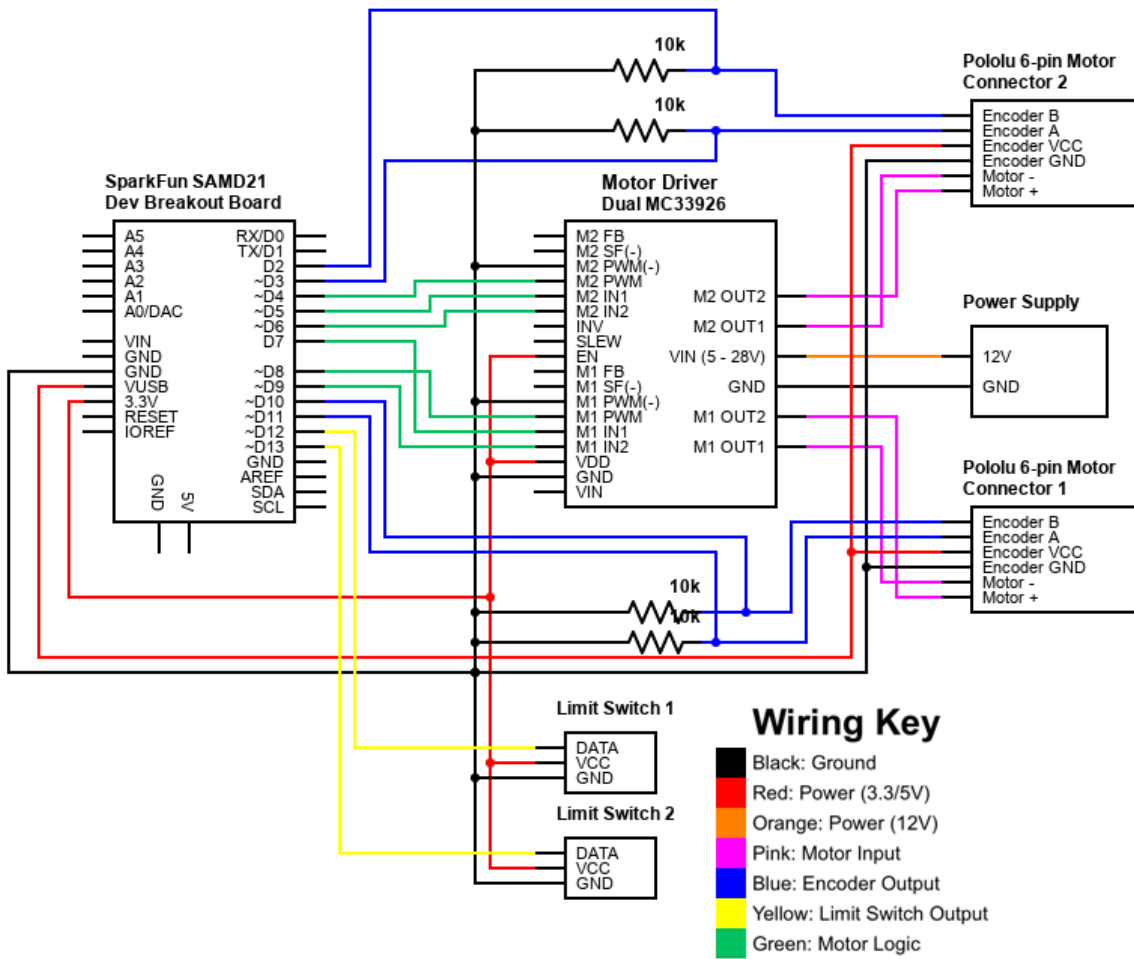

Figure 8: Spray Arm Control Wiring Diagram
- The six(6) pin motor terminals are plugged directly into pin headers on the breadboard, as seen in Figure 8.